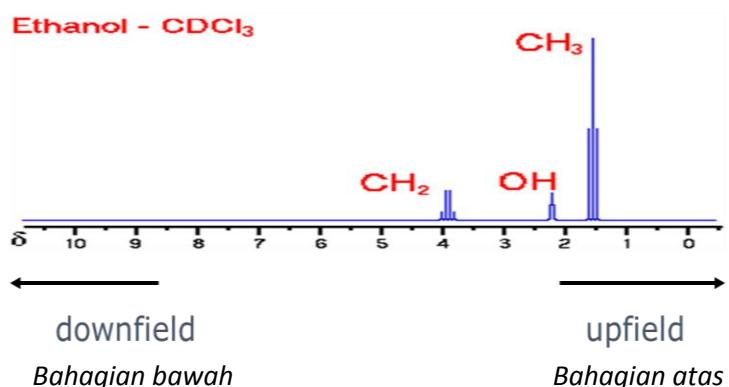

Figure 5: NMR Spectrum
- (b). In Nuclear Magnetic Resonance (NMR), the chemical shift can be influenced by the electron density in a molecule. Explain your understanding of which conditions make the chemical shift move to the upfield or downfield of the magnetic field (Figure 5).